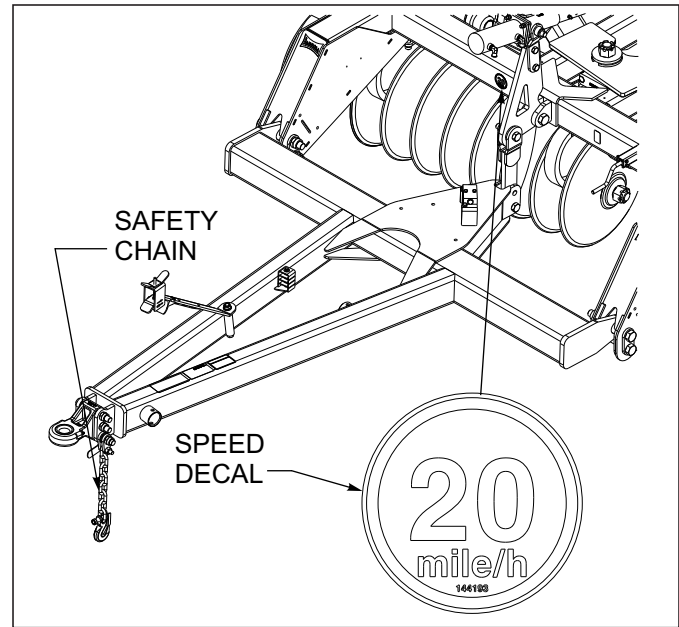

Figure 4-14: Hitch, Speed Identification Symbol, and Safety Chain
2. The 7510 should be transported only by tractor required for field operation. The implement weight should not exceed more than 1.5 times the tractor weight. Maximum transport speed for the 7510 is 20 mph for the implement and is designated on the speed identification symbol located on the front of the implement (See Figure 4-14.)
- b. Attach the safety chain to the tractor drawbar (See Figure 4-14.) Provide only enough slack in the chain for turning. Do not use an intermediate chain support as the attaching point for the chain on the tractor. Do not pull the implement by the safety chain.